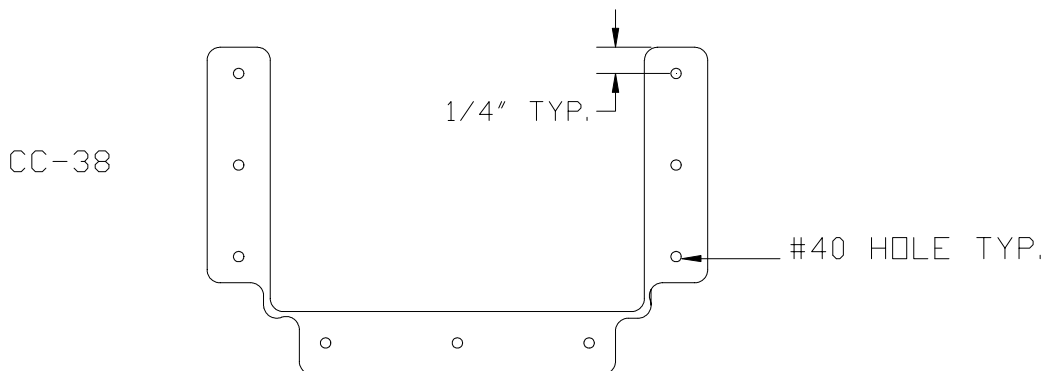

Figure 8.8.1
- 1) On the two Bearing Bases (CC-38) mark and drill out nine #40 holes in the flanges as in Figure 8.8.1. after you have test fitted the CC-38 to the rear spar to ensure you pick up the backing plate with your holes.